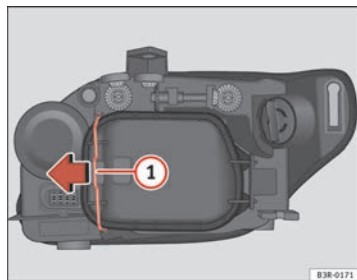

Fig. 198 Dipped head-lights
Although it is not necessary, previously remove the rigid cover ⇒ page 262, fig. 198 for easier turn signal bulb changes. ■
- Move the brace ⇒ fig. 198 ① in the direction of the arrow and remove the rigid cover, separating the brace side and then removing the two tabs from the other end of the cover.